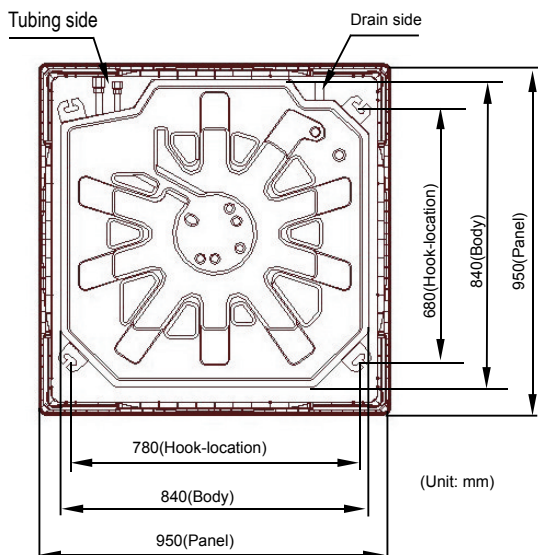
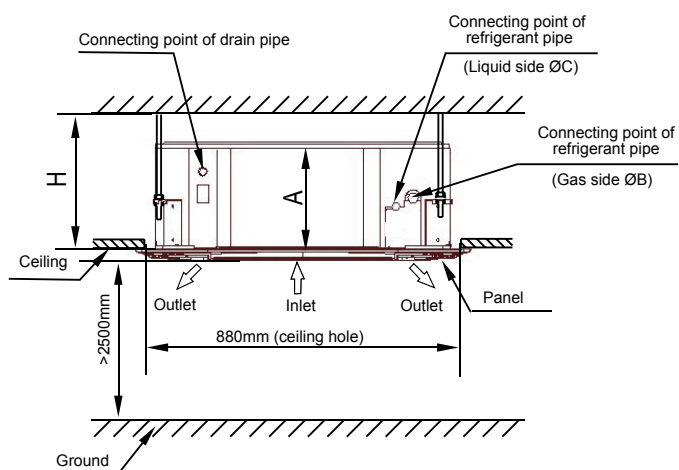
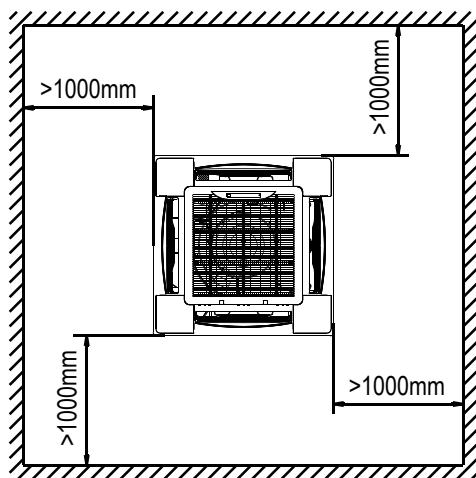

Fig.5-1
Fig.5-2
Fig.5-3
(Refer to Fig. 5-1, Fig. 5-2, Fig. 5-3 and Table 5-1 for specification.)
- Cut a quadrangular hole of 880x880mm in the ceiling according to the shape of the installation paper board. (Refer to Fig. 5-2)